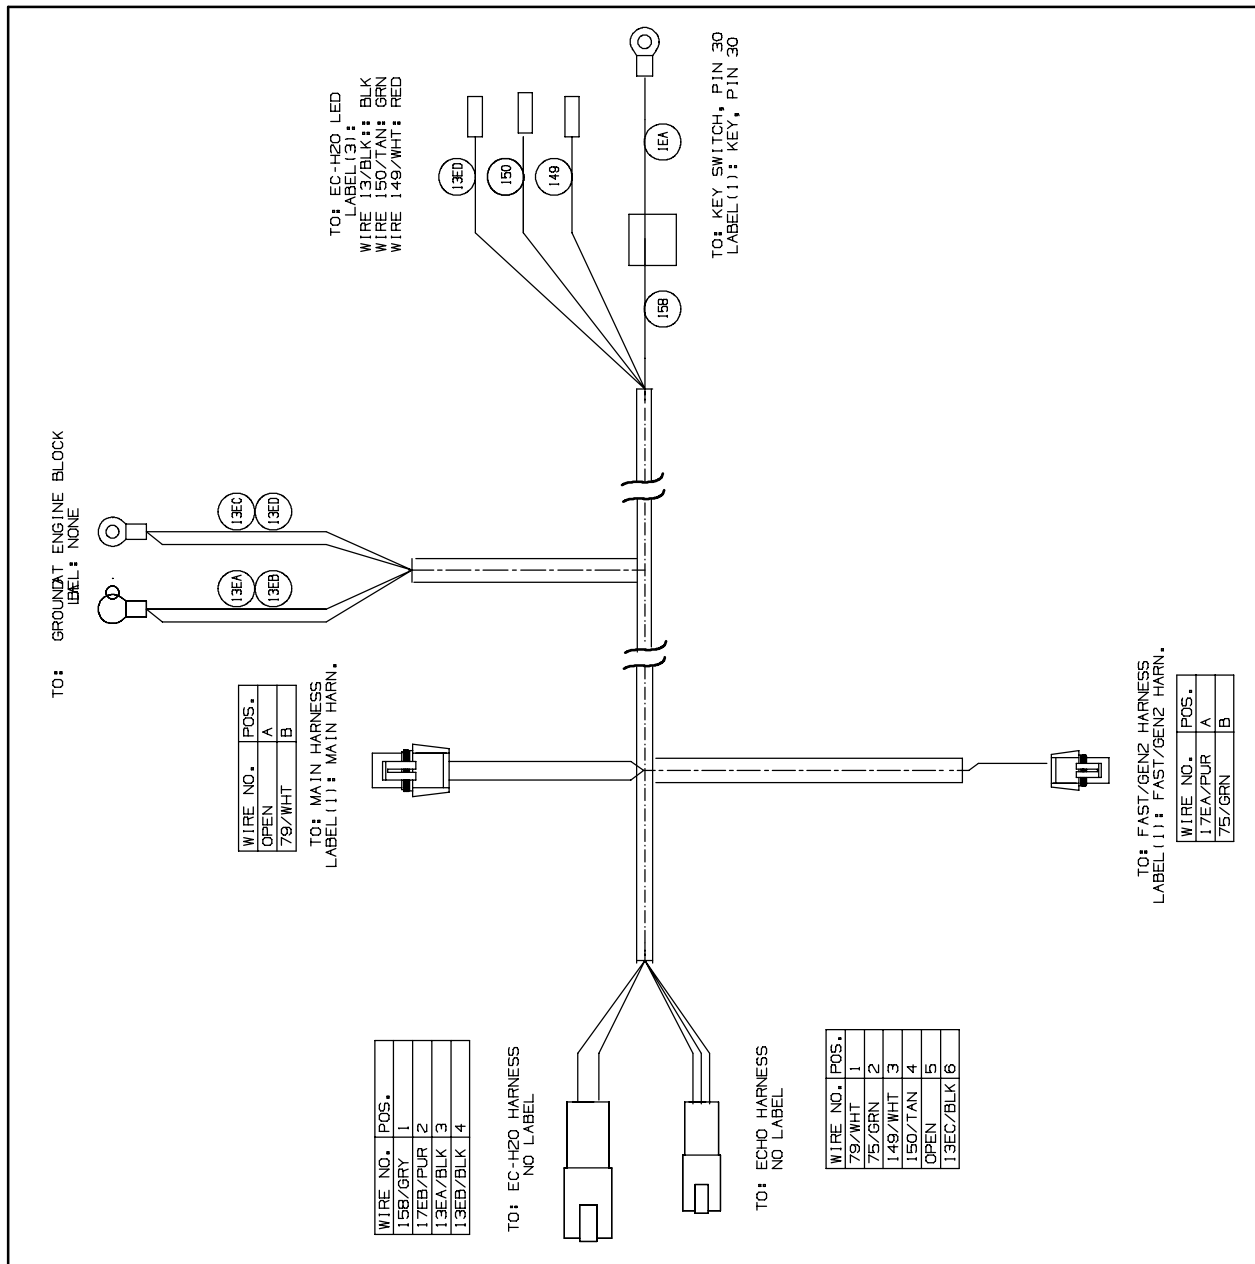

FIG. 8
40. Route the *ec-H20* harness ground lead to the engine ground and connect the ground lead to the engine ground. Refer to Fig. 8.
43. Slide the *ec-H20* harness ignition switch lead through the bottom of the boot and connect the ignition lead to the PIN 30 terminal on the ignition switch. Refer to Fig. 8.
45. Connect the *ec-H20* harness to the LED light. Refer to Fig. 8.
53. Connect the *ec-H20* harness to the *ec-H20* assembly. Refer to Fig. 8.